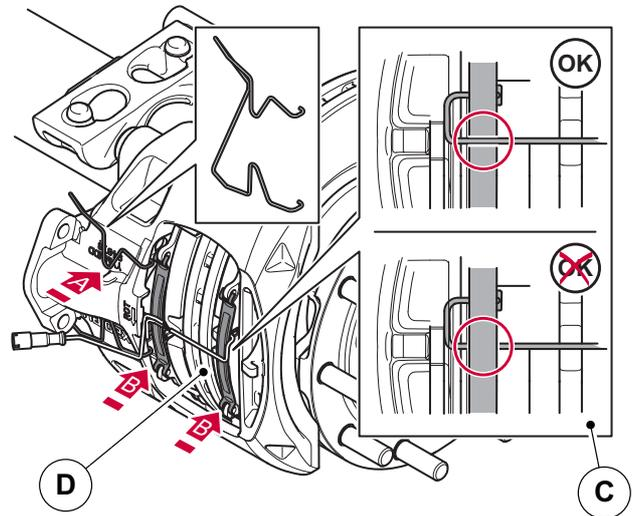

Figure 110. PWI cable fitting
6. Install a new spring bracket (C) into the calliper and ensure it is seated in position correctly.
7. The PWI cable (D) for the outer brake pad (C) must be positioned correctly. Cable going out and over the Pad spring to avoid that the cable will be cut off. See figure 110.